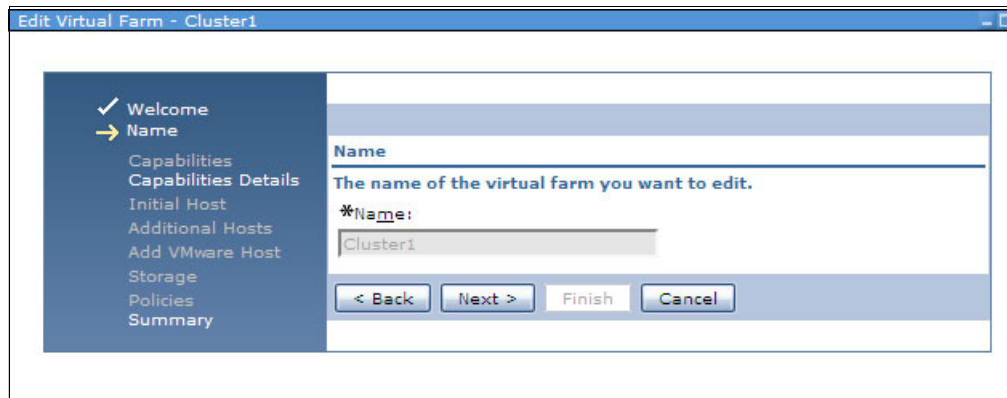

Figure 11-51 Edit Virtual Farm Name window
4. Verify the cluster name and click **Next**, as shown in Figure 11-51.